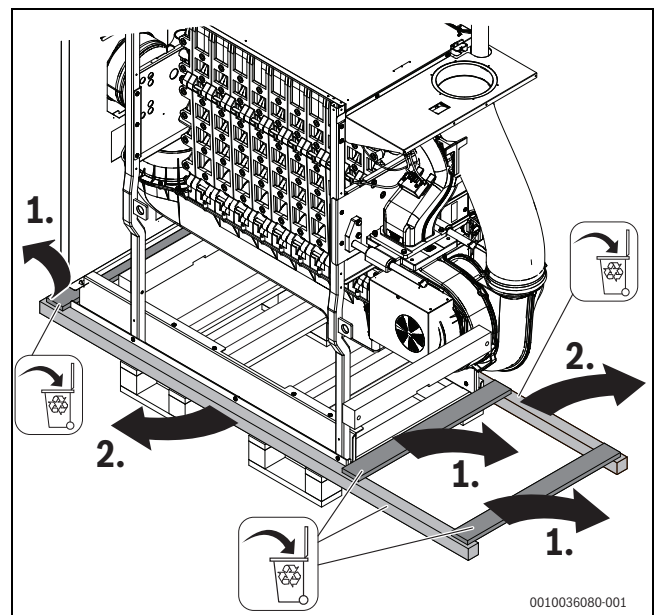

Fig. 13 Remove the fixing strips from the pallet (example for illustration purposes)
- Remove the front and rear cross strips from the pallet (→Fig. 13).
- Remove the 2 strips on the long side from the pallet (→Fig. 13).